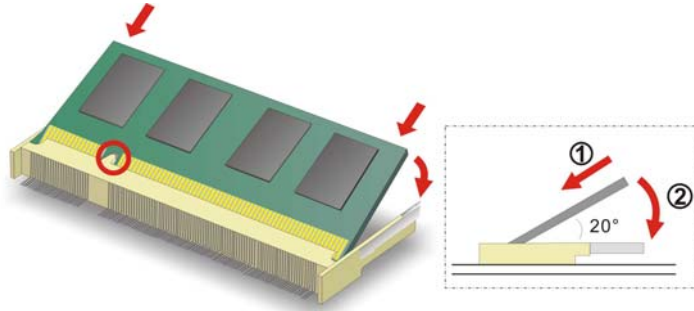

Figure 4-2: SO-DIMM Installation
**Step 4:** Align the notch on the memory with the notch on the memory socket. Insert the SO-DIMM in at a 20° angle. (Figure 4-2).
**Step 5:** Push the SO-DIMM downwards until the arms of the SO-DIMM socket clip into place and secure the SO-DIMM in the socket (Figure 4-2).